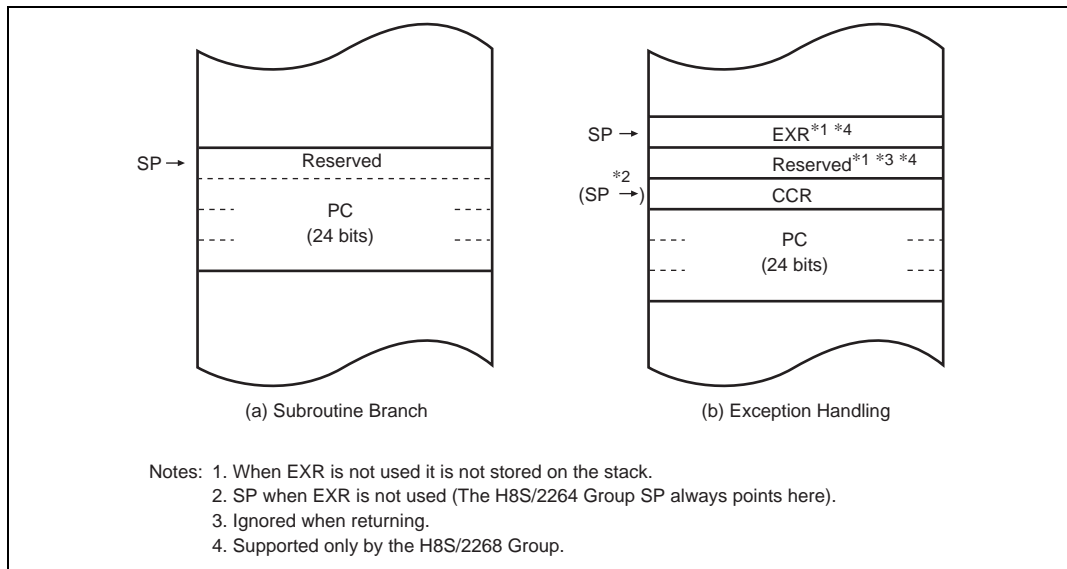

Figure 2.4 Stack Structure in Advanced Mode
In advanced mode, when the program counter (PC) is pushed onto the stack in a subroutine call, and the PC, condition-code register (CCR), and extended control register (EXR*) are pushed onto the stack in exception handling, they are stored as shown in figure 2.4. When EXR* is invalid, it is not pushed onto the stack. For details, see section 4, Exception Handling.